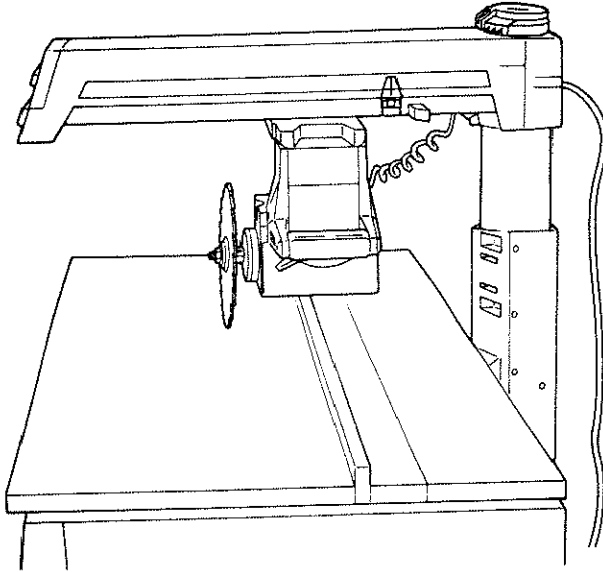

Fig. 63 - Out-rip Position
1. Unlock the *swivel lock* and turn the *motor* to the out-rip position with the *motor* between the *blade* and *fence*. (Figure 63)